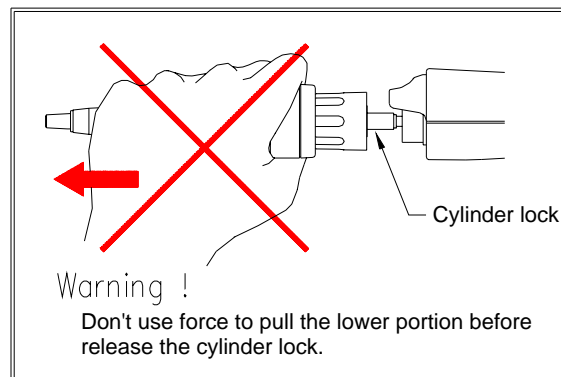
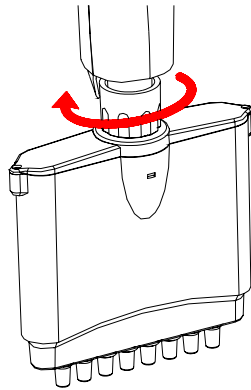

Figure 10: Incorrect removal of the lower piston assembly.
Figure 11: Loosen the connecting nut by unscrewing counter-clockwise.
Only the lower piston assembly of LABNET Excel electronic pipettor can be steam-autoclaved (121°C, 1 bar, 20 minutes). NOTE: It is important not to exceed the the temperature of 121°C or 20 minute time during the autoclaving cycle. Autoclaving at a higher temperature or for longer period of time will damage the manifold and void the warranty. The autoclaved parts must be allowed to dry completely at room temperature for at least 2 hours before reassembly. Users can follow Figures 11~14 to disassemble the LABNET Excel electronic pipettor. Please “DO NOT” use excessive force to pull down the lower part before releasing the cylinder lock as shown in Figure 10. This action will break the connection mechanism of the lower part, permanently damaging the instrument and will void the warranty.
2. Loosen the lower part of LABNET Excel electronic pipettor by unscrewing the connecting nut in counter-clockwise direction as shown in Figure 11.